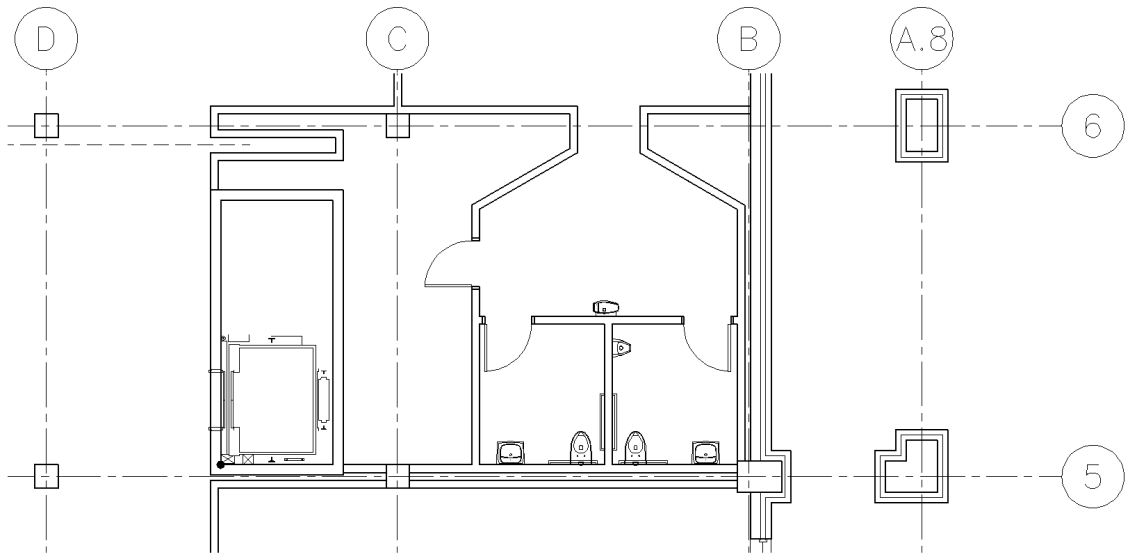

Figure 4-3.10 Elevator inserted into your floor plan (black dot in lower-left for reference only)
25. Select the same, relative, location as the insertion point (shown as a black dot in Figure 4-3.10).